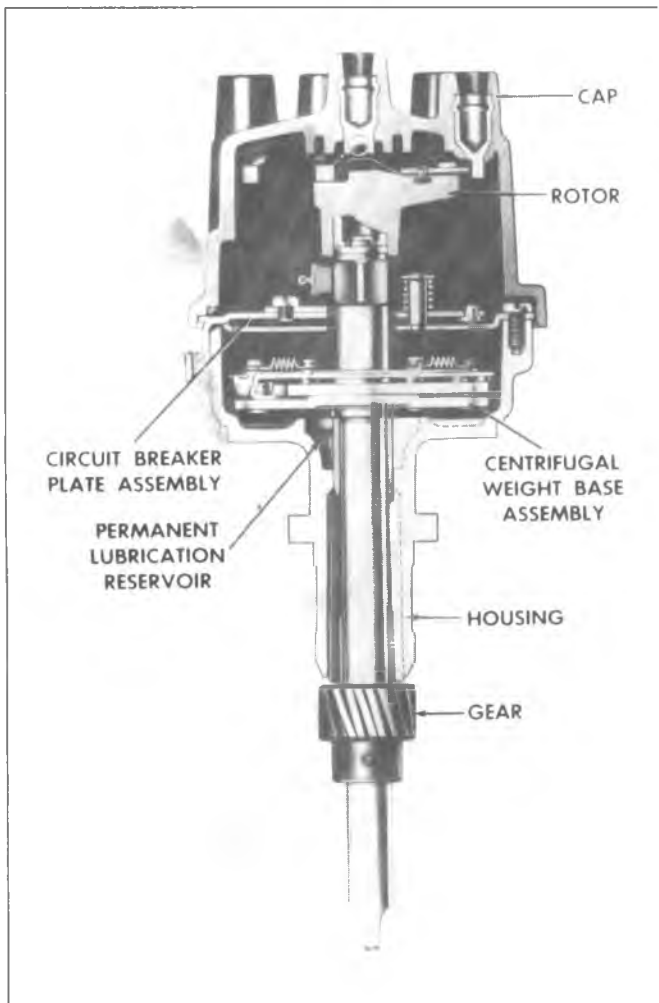
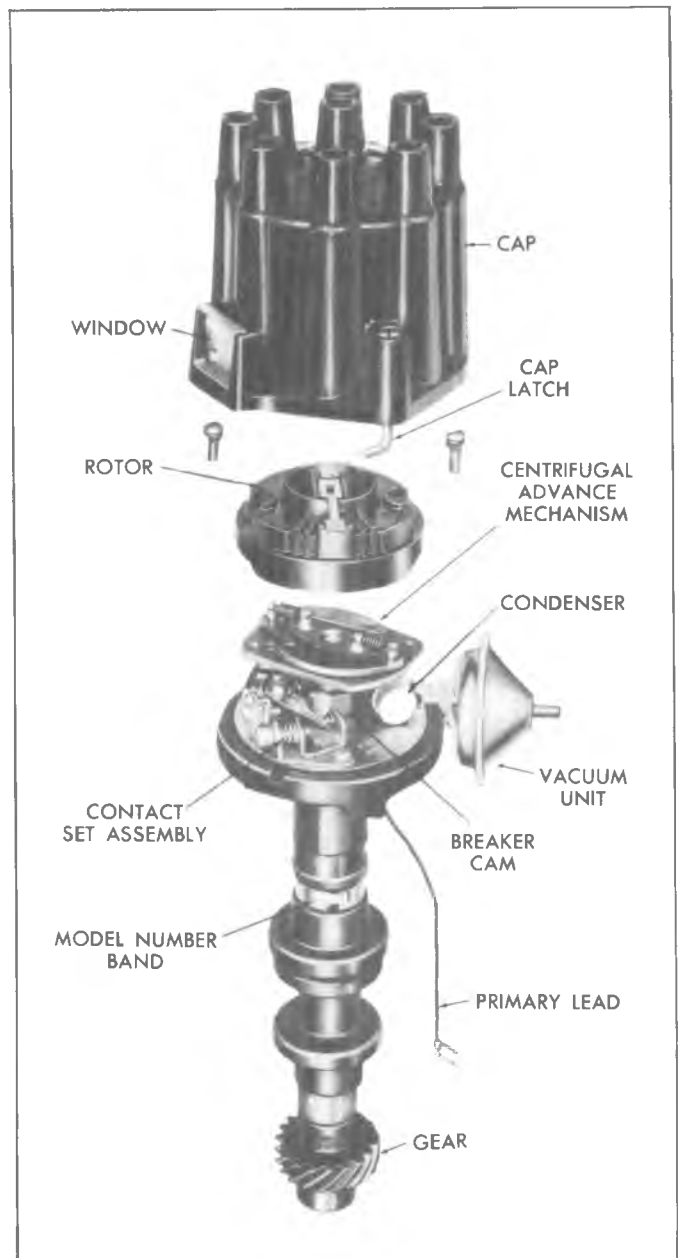

Fig. 1i—L-6 Distributor
Fig. 2i—V-8 Distributor
Two types of distributors are used: an internal adjustment distributor on 6 cylinder engines (fig. 1i) and an external adjustment distributor on 8 cylinder engines (fig. 2i). Both function in much the same manner to - (1) cause a high voltage surge from coil, (2) time these surges with regard to engine requirements through use of centrifugal and vacuum advance mechanisms, and (3) direct high voltage surges through distributor rotor, cap, and high tension wiring to the spark plugs.
Eight Cylinder Engine Distributor (Fig. 2i)